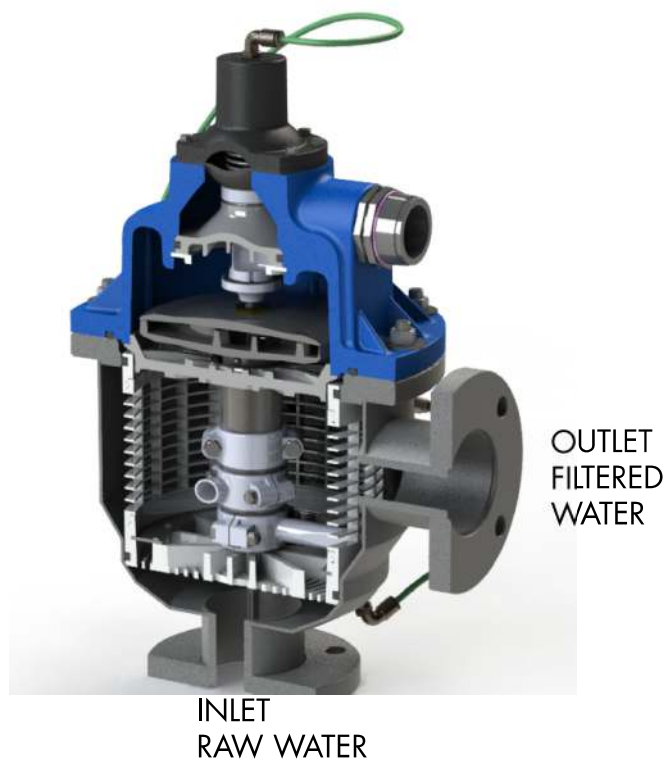

Figure 2 Flush Valve in steady state position, drain closed
4. Filtaworx® automatic filters have a self-cleaning function. When activated a filter flush will occur, the internal nozzles travel over the screen internal, vacuuming the filter fine screen, the contaminants are ejected from the drainpipe. Typically, this operation is triggered by a differential pressure (DP) across the filter of 50 kPa (7 psi). Each operation of the flush should take between 5-7 seconds. While flushing, the filter continues to operate normally with clean water exiting the outlet.
- a. Filter in steady state normal operation with piston in standard position with no flush operation, the drain valve is closed. Water flows from inlet to outlet only. See Figure 2 below.